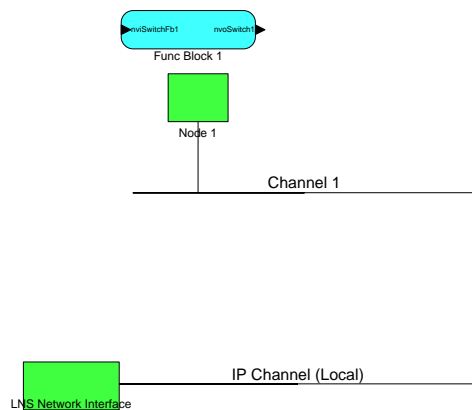

Figure 94: Move the LNS Network Interface to the newly created IP Channel.
7. If the L-IP is used as a CEA-709 configured router one should add the L-IP in the LonMaker drawing. Create a new Channel with channel type IP-10L in an Intranet or IP-10W in an Internet environment. Move the LNS Network Interface to this newly created IP channel as shown in Figure 94 by selecting the LNS Network Interface and choosing “Change Channel” from the context menu.